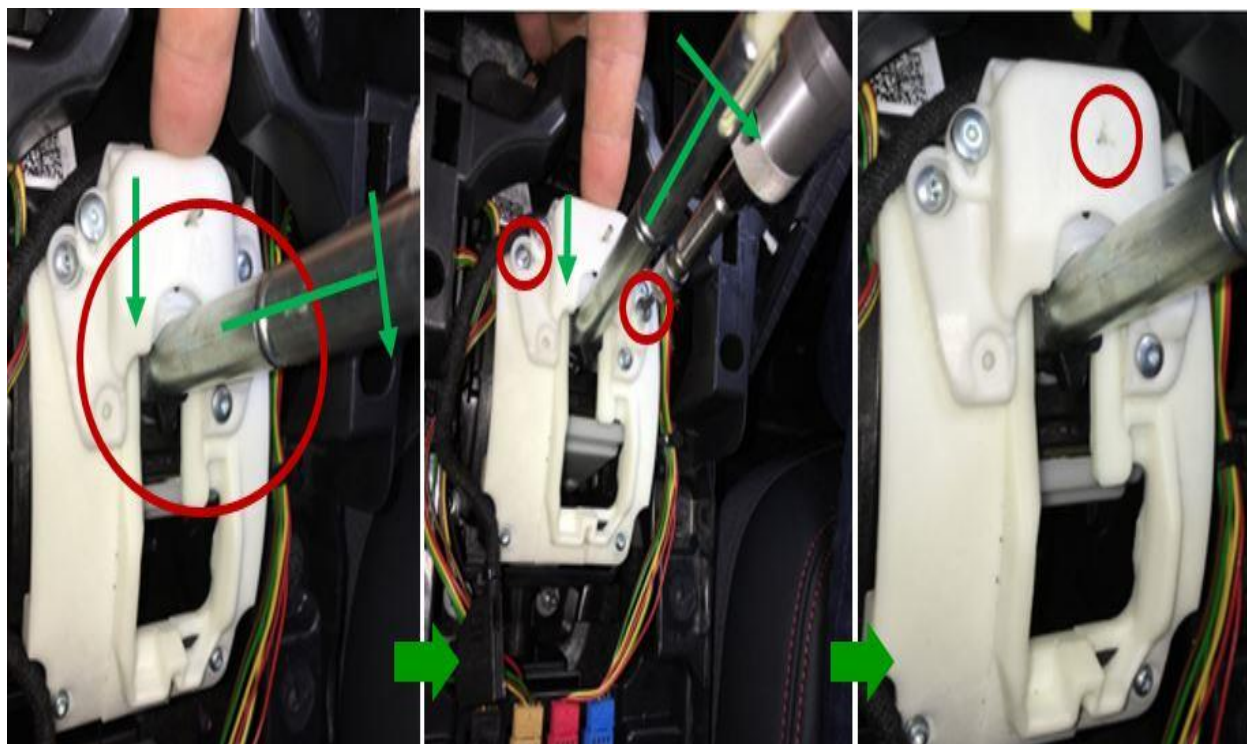

Figure 12. *Microswitch module adjustment.*
11. Place the selector lever into the “Park” position and adjust the microswitch module as shown below (Figure 12).